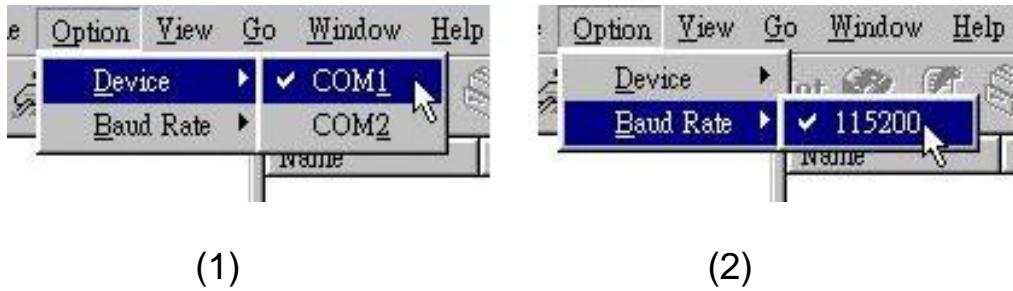

Fig.3 Specify the (1) serial communication port and (2) baud rate.
1. Click “Option”->”Device” menu item to assign serial communication port and “Option”->”Baud Rate” menu item to specify the baud rate. Fig.3 shows these operations.